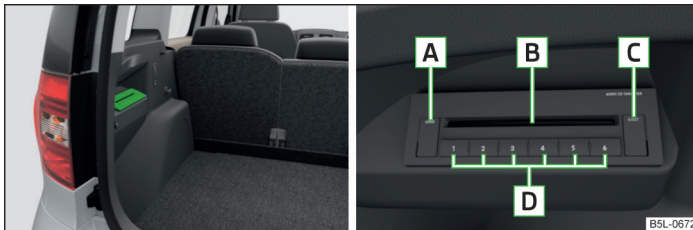

Fig. 101 The CD changer
› Touch the button **C** » Fig. 101 and guide the CD (compact disc) into the CD-case **B**. The CD is automatically loaded onto the lowest free position in the CD changer. The indicator light in the corresponding button **D** stops flashing.
› Press and hold the button **C** » Fig. 101 for longer than 2 seconds and guide the CDs one after the other (maximum 6 CDs) into the CD case **B**. The indicator lights in the buttons **D** stop flashing.
› Press the button **C** » Fig. 101. The indicator lights in the buttons **D** illuminate the memory spaces that are already assigned and flash in the case of free memory spaces.
› Press button **A** » Fig. 101. For assigned memory spaces, the indicator lights now illuminate in the buttons **D**.
› Press and hold the button **A** » Fig. 101 for more than 2 seconds. All CDs in the CD-changer are ejected consecutively.
- Insert a CD, with the labelled side facing up, into the CD slot **B** » Fig. 101 until it is automatically drawn in. The play function will start automatically.